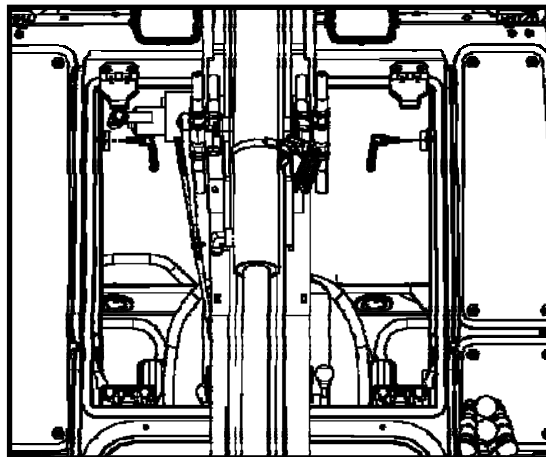

Figure 18.7: Secure Backhoe Cab Handles
- 18.7 Rotate the backhoe cab forward and secure backhoe cab to the rear panel with the adjustable handles (see Figure 18.7). Note: An additional clamp can be used in order to compress the foam seal and allow the slot and threaded insert to align for easier hand screw installation.